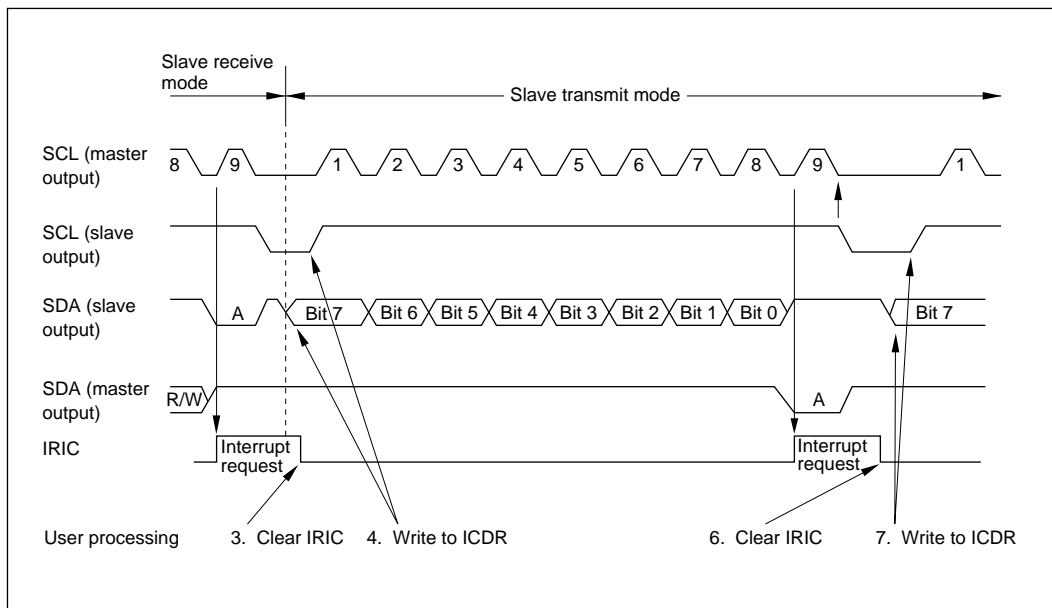

Figure 10-3-7 Timing in Slave Transmit Mode (MLS = WAIT = ACK = 0)
4. Write data in ICDR. The slave device outputs the written data serially in step with the clock output by the master device, with the timing shown in figure 10-3-7.